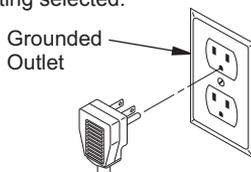

Figure 24 - Grounding Plug
**WARNING:** Blower accessory must be grounded. Blower comes with a three-prong, grounding plug as shown in Figure 24. The plug is your protection against electrical shock. Plug it into a standard, three-hole, grounded, outlet. If cord needs replacing, use only a cord with a three-prong, grounding plug.